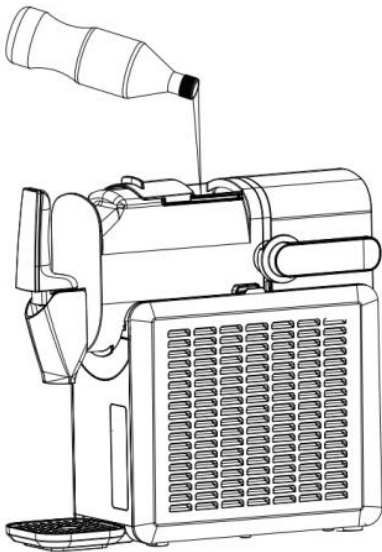
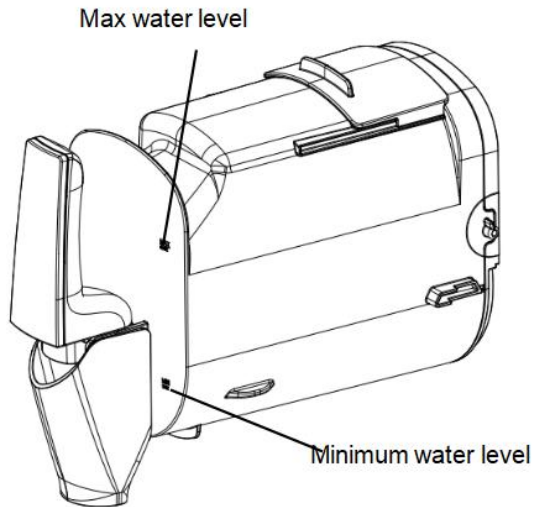

Figure 1
Figure 2
1. Check the charging barrel before pouring the material into the charging barrel to ensure that the charging barrel is installed in place (see the "cleaning" part for the disassembly and assembly steps, please install the drip tray before using it for the first time), open the top cover of the charging barrel, and then slowly pour the material into the charging barrel (as shown in Figure 1), and the liquid capacity should be between the Minimum and Max water levels (as shown in Figure 2).
1.In order to avoid increased mixing load and overflow after ingredients expansion, the ingredients should not exceed the maximum capacity water level. For accurate temperature control and normal operation, the ingredients needed to be added to the minimum capacity water level (see Figure 2). The machine makes the best smoothies when it is loaded with the maximum capacity, so please try to make smoothies according to the maximum capacity.